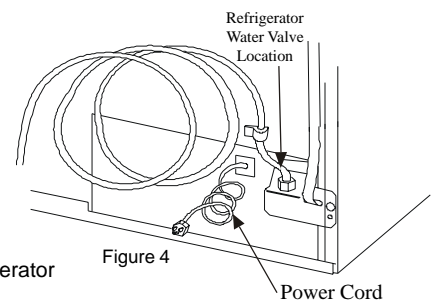

Figure 4
- Unit supplied with a 5 foot power cord. (See Figure 4)
- The extra tubing should be coiled into 3 turns of about 10 inches (25 cm) diameter to allow the refrigerator to move out from the wall after installation. (as shown in Fig. 4)